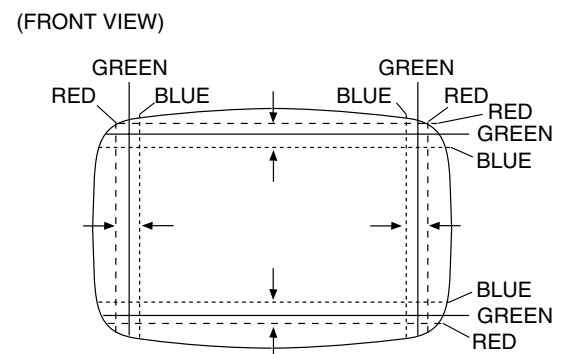

Fig. 6
2. Move the deflection yoke left to right and overlap the lines in the periphery. (Fig. 6)